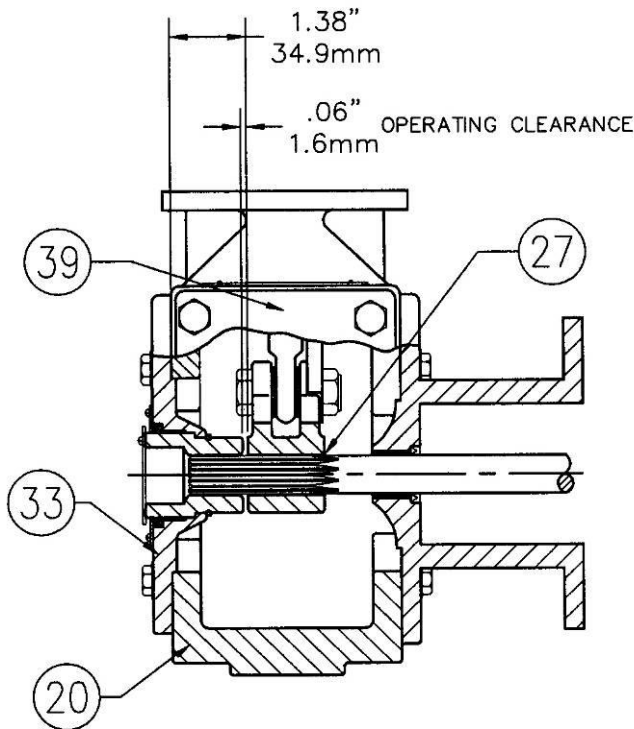

Figure 5: Lever Operating Clearance
9. Refer to the proper valve body instruction manual for lever/valve shaft orientation marks and slide the lever into place. (See Figure 5) Clamp with the cap screw (Key 10).
11. Refer to the appropriate valve body instruction manual for lever/valve shaft orientation marks, and slide the lever (Key 33) into place. See Figure 5 for correct lever operating clearance. Clamp with the cap screw (Key 10).
6. Refer to the appropriate valve body instruction manual for lever/valve shaft orientation marks and slide the lever into place. Consult Figure 5 for lever operating clearance. Clamp with the cap screw (Key 10).